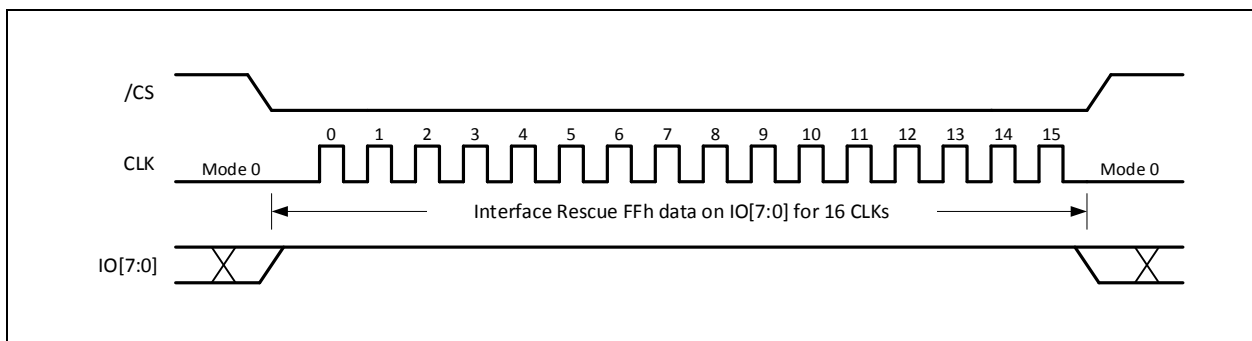

Figure 4-5. Interface Recovery Sequence
- The second step is to restore the Non-Volatile Configuration setting to the Volatile Configuration Register state to be the active interface mode. This is performed by driving the /CS pin low, followed by driving IO[7:0] pins high ('FFh') for 16 CLK cycles, and subsequently driving the /CS pin high before the 17th CLK activates the Non-Volatile Configuration Register setting to the Volatile Configuration Register. Figure 4-5 illustrates the Interface Recovery Sequence.